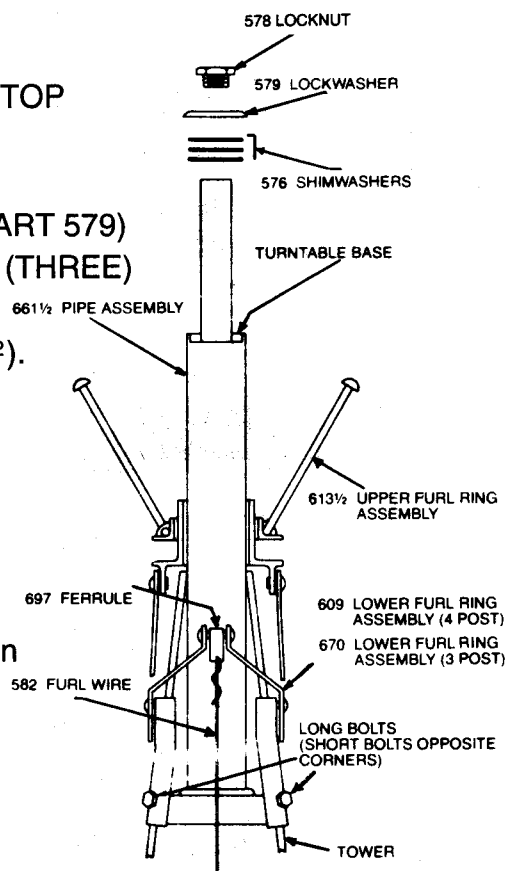

FIGURE 1
ASSEMBLE THE MASTPIPE WITH BASE (PART 661^{1/2}) INTO TOP OF TOWER OR STUB TOWER. Refer to figure 1.
2. Place the MASTPIPE (PART 661^{1/2}) in the top of the tower or sub tower. See figure 1.
3. Using the two long bolts, attach the supporting angles of the lower furl ring assembly. See figure 1.
5. Place the UPPER FURL RING ASSEMBLY (PART 613^{1/2}) over the mastpipe and on the lower furl ring assembly. Position the upper furl ring with the flat side down. See figure 1.
INSTALL THE FURL WIRE (PART 582). Refer to figure 1.
1. Attach the FURL WIRE (PART 582) to the end of the furl lever. Thread the wire through the holes in the ferrule, loop the wire back and twist the wire around itself several times to secure. See figure 1.